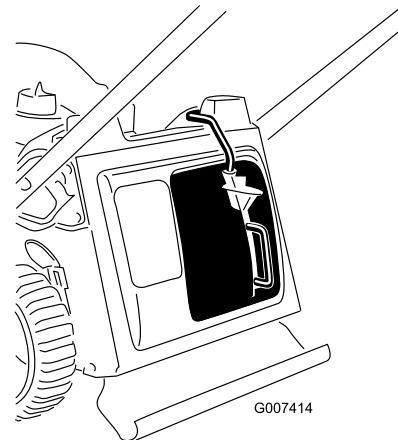

Figure 12
3. Release the button on the lever and ensure that the top of the lever is lies fully in the switch channel (Figure 12). **If the top of the lever is not in the switch channel, your mower will not start!**